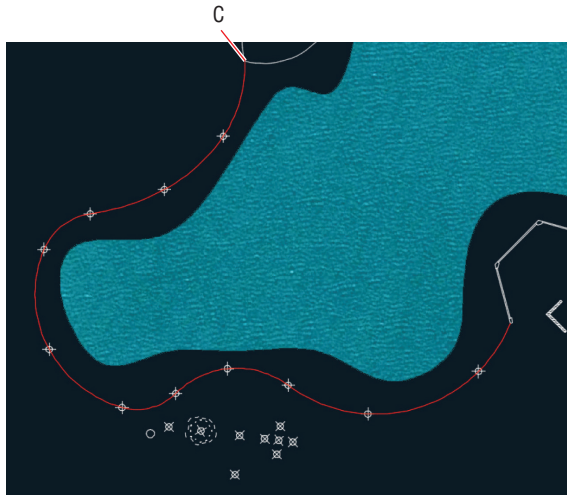

FIGURE 5.3 Drawing a polyline around the left half of the lake
5. Click each subsequent node around the left half of the lake until you reach point C in Figure 5.3. Press Enter to end the PLINE command.